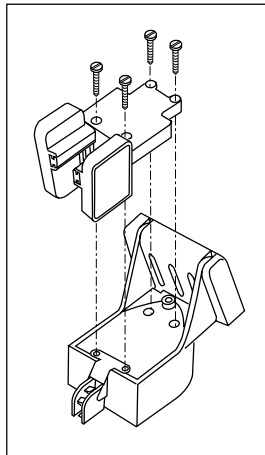

Fig. 2-7
2. The M78930 Sidelooker transducer is attached to the same mounting bracket used with the transom-mount transducer. See Fig. 2-7. Begin by installing the transom-mount bracket as described earlier.